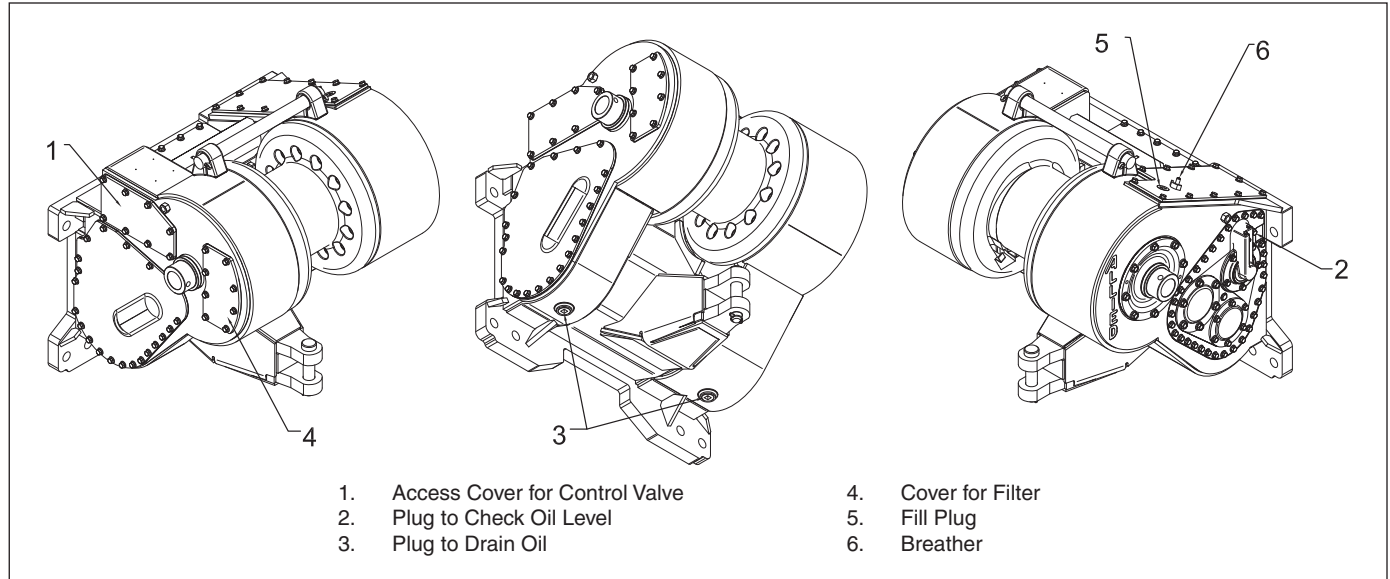

Figure 3-19 W12E Maintenance Points (Ratio #7 shown)
4. Remove any dirt from the left side of the winch. Remove control valve access cover (Fig. 3-19).